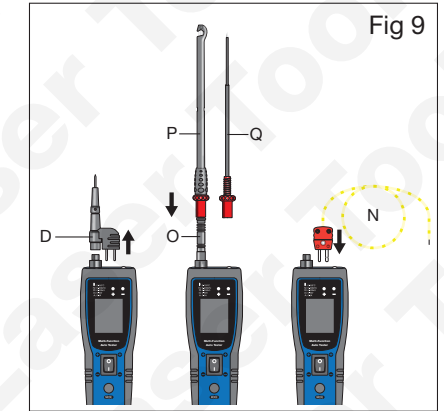

Fig 9
Refer to Figure 9: As well as the standard test probe / thermocouple (D), the set is supplied with a wire-piercing probe (P) a long test probe (Q) and a separate thermocouple with flexible probe (N).